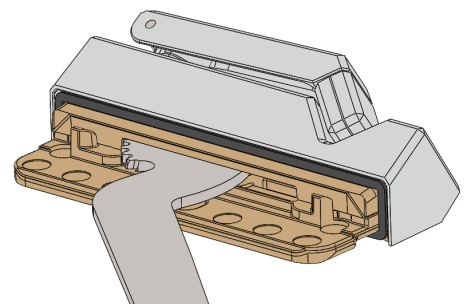

Figure E4:
5. To reinstall follow steps 1-4 in reverse, Ensure the gasket [sits between the operator and the frame] is properly aligned, if the gasket is not placed properly leaking may occur (Figure E4).